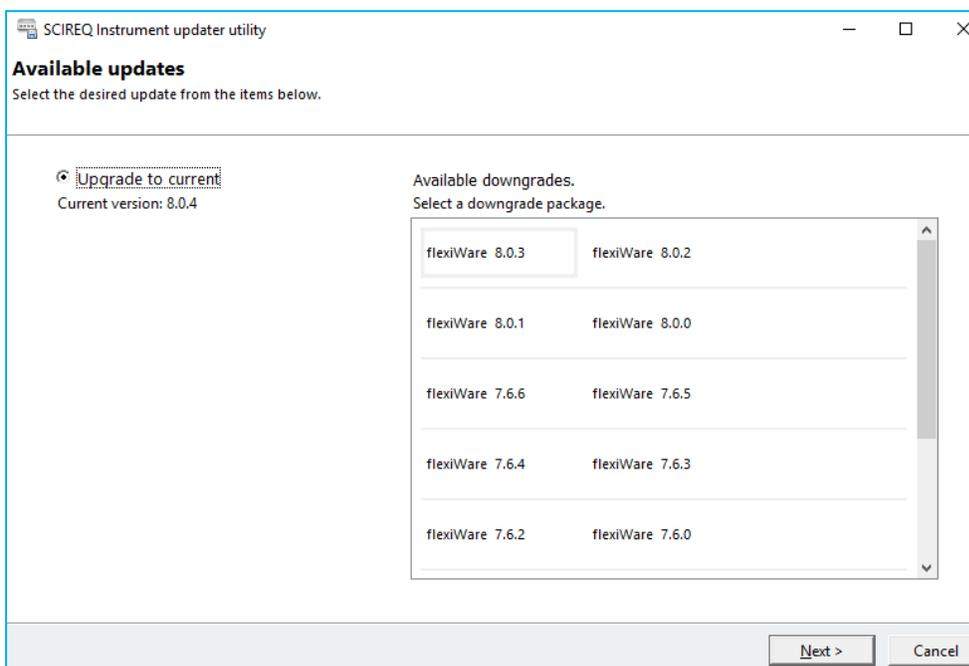

Figure 3-1. Upgrade to Current
- » The utility will show possible updates to the instrument. Click *Upgrade to Current* to update the instrument to the latest version (Figure 3-1)